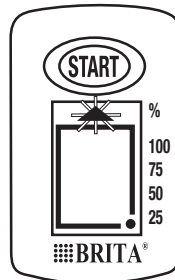

Figure 5
- After 8 weeks, all four bars will disappear and a flashing arrow will appear to indicate that the cartridge should be replaced. (See figure 5).